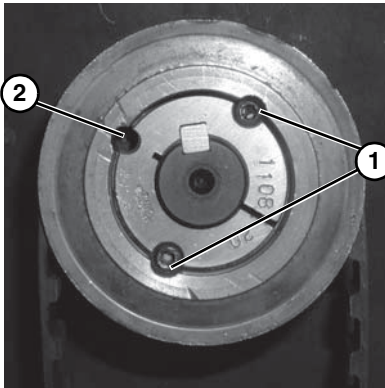

Figure 22
2. Remove taper-lock screws (**Figure 22, item 1**). Insert one (1) of taper lock screws in remaining hole (**Figure 22, item 2**). Tighten screw until pulley is loose. Remove pulley and taper hub assembly.